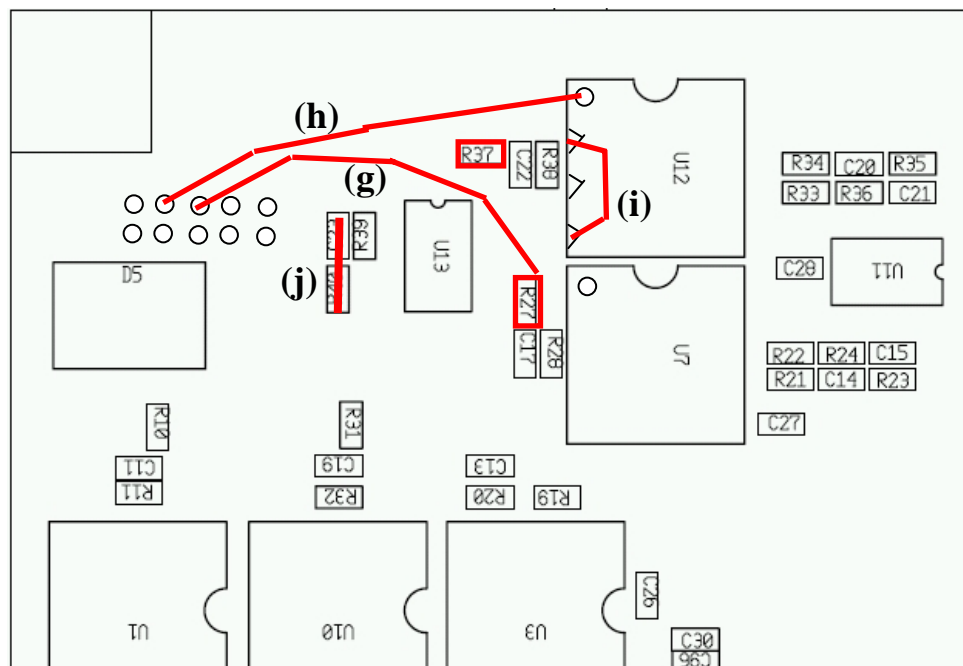

Fig.9. Wire connections on bottom side 3-g, h, i, j.
- (g) **Wire connection.** Connect resistor R27 (part of +5VMB sense line divider) directly to pin5 of J12 connector by a 30mm piece of insulated wire, see Fig.9 on next page.
- (h) **Connect** pin3 of J12 with pin1 of U12 by using a wire, see Fig.9. This operation will connect +5V DIG with power supplies of all five isolation amplifiers (HCPL7840).
- (i) Make a short connection between pin4 and pin 2 of U12, see Fig.9.
- (j) Connect resistor R37 directly to pin7 of the connector J12 (-5VMB sense lines) by means of short-cut through unsoldered components C23, R40, see Fig.9. Verify good connection between pin7 of J12 and resistor R37.